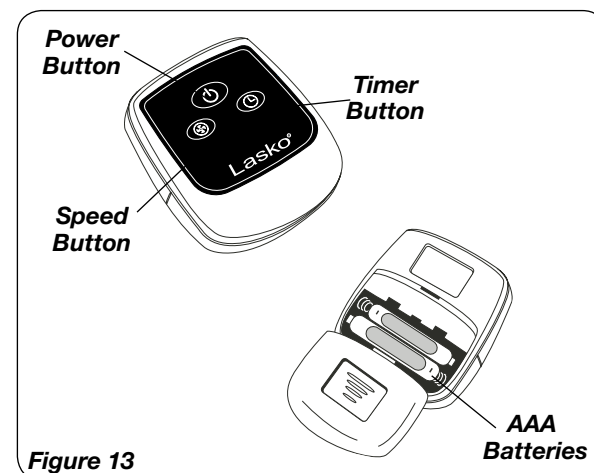

Figure 13
1. Install batteries (not supplied) as shown in *Figure 13*. The battery is size "AAA".